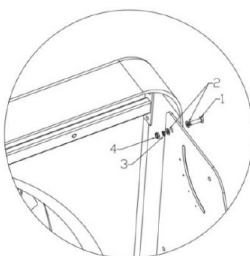

Figure 4
2. Fasters shall be locked as per (Figure 4) (① M8 * 25mm bolt; ② M8 flat pad;
③ M8 elastic pad; ④ M8 nut)